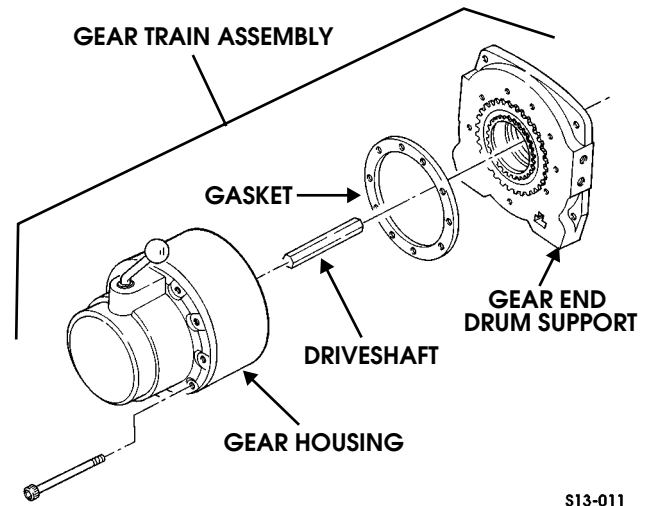

Figure 13-10: Gear Train Assembly
13. Remove driveshaft from gear train assembly (Figure 13-10).
15. Remove gasket from gear end drum support. Discard gasket (Figure 13-10).